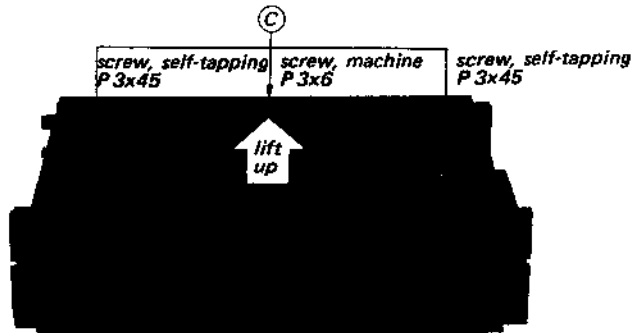

Fig. 2-3.
7. Remove the three screws labeled (C) in Fig. 2-3.